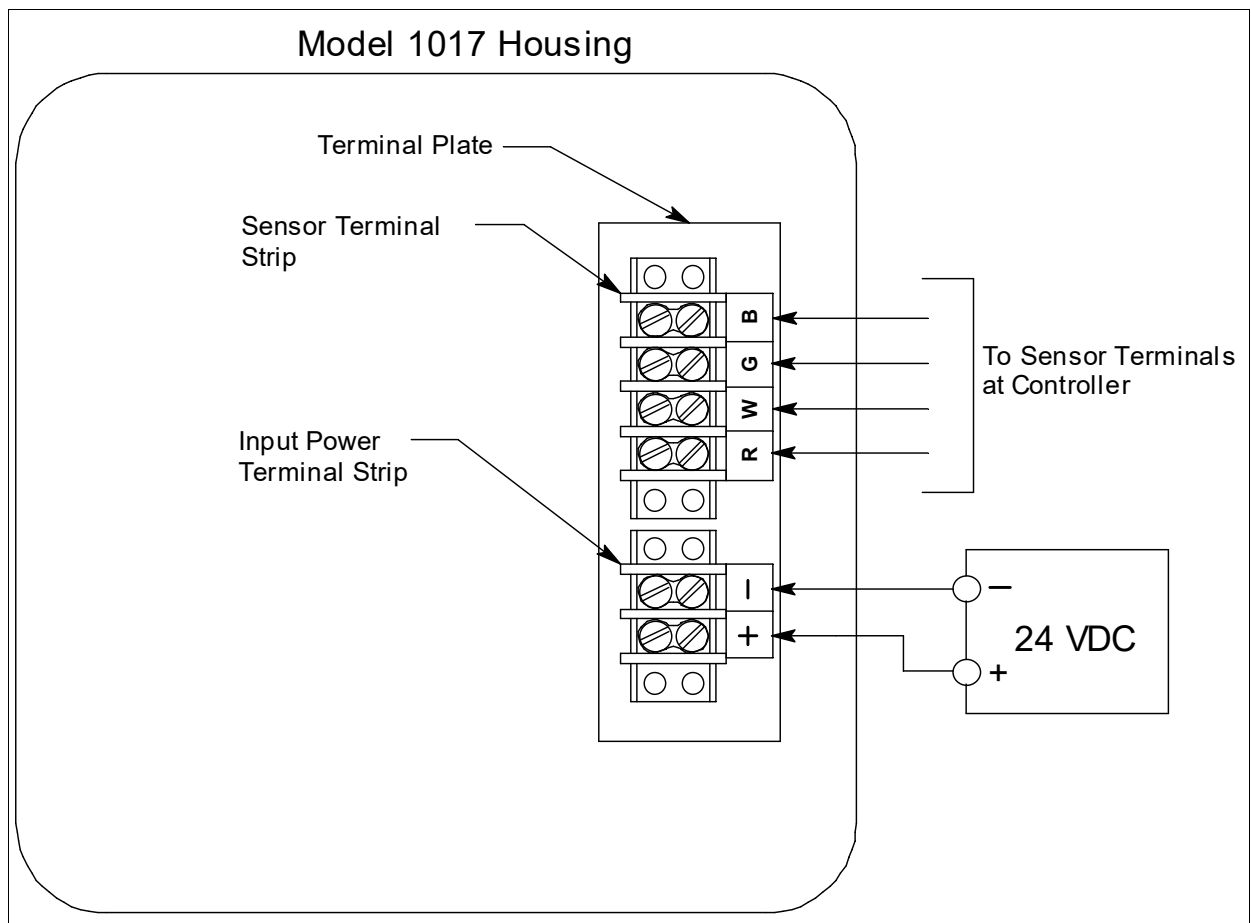

Figure 4: Wiring the Model 1017-10
4. Connect two wires to the input power terminal strips as shown in Figure 4.